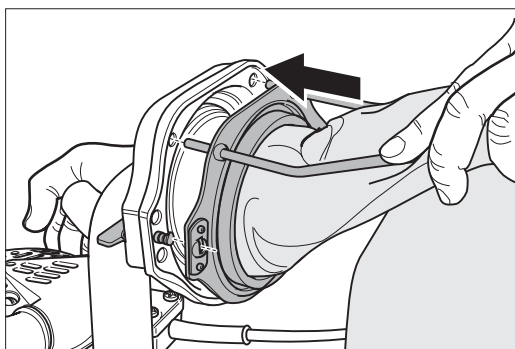

Fig. 3 Push the dust bag over the locating flange and fix with the two metal studs.
- 5 Push the dust bag opening over the locating flange fixed to the end of the elbow piece and fix the dust bag using the two metal studs (Fig. 3).